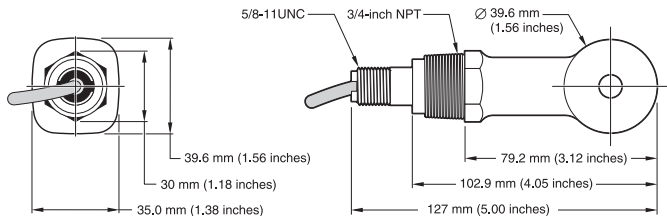

Figure 19 Convertible-style sensor
6. Due to the mechanical dimensions and the materials used, in certain process conditions such as dry environments or gas streams, hazards may arise due to electrostatic charging that could produce sparks capable of ignition when discharged. It is therefore necessary to comply with the following (refer to **Figure 19**):
plumbing standard) (refer to Figure 19). Mounting in the boundary wall between zone 0 and the less endangered area is to be undertaken properly such that an adequately sealed gap (IP 67) is obtained.